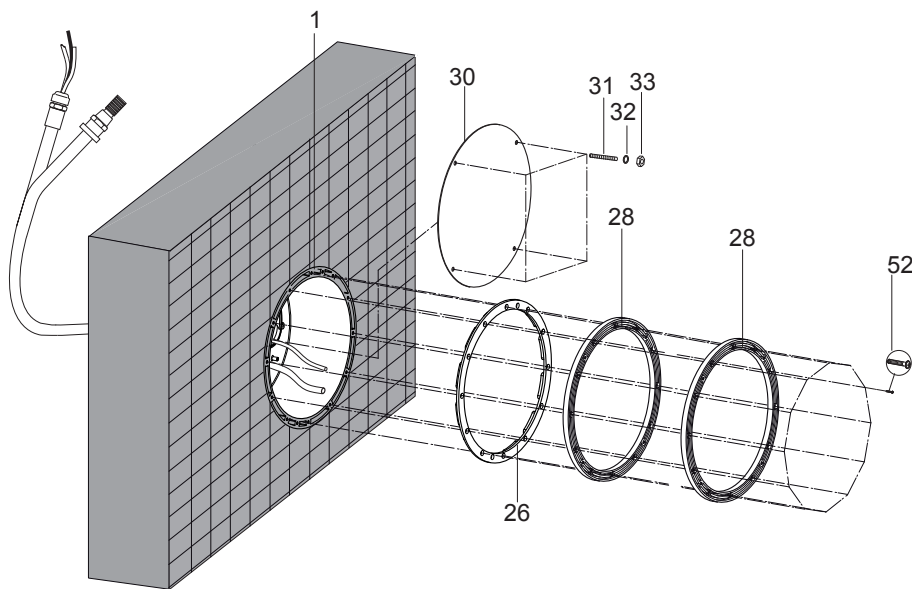

Figure 7
- **Tiled pool:** The tile thickness may be compensated with an additional clamping ring and longer clamping screws (optional parts). (See Figure 7)
- **In a tiled pool:** The tile thickness may be compensated with an additional clamping ring and longer clamping ring screws (optional parts). (See Figure 7)